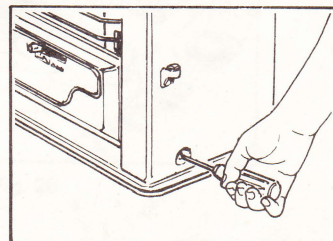

Fig. 18
(4) Remove set screws from sides and rear of the body. (Fig. 18)